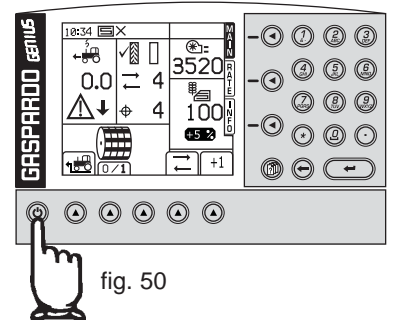

fig. 50
- 5) Switch on the panel (Fig. 50) and wait until the initialization process is completed (approx. 8 to 10 seconds).